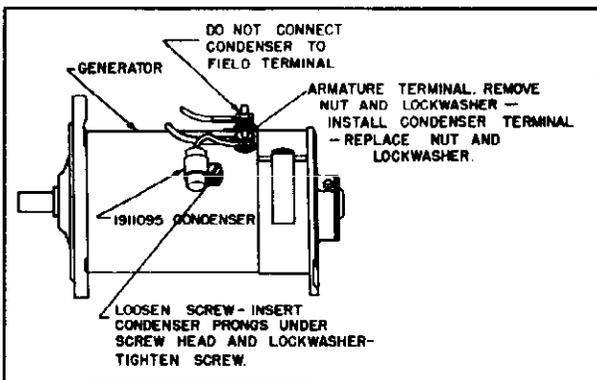

Figure 57
1. Mount generator condenser on generator. (See Figure 57.)